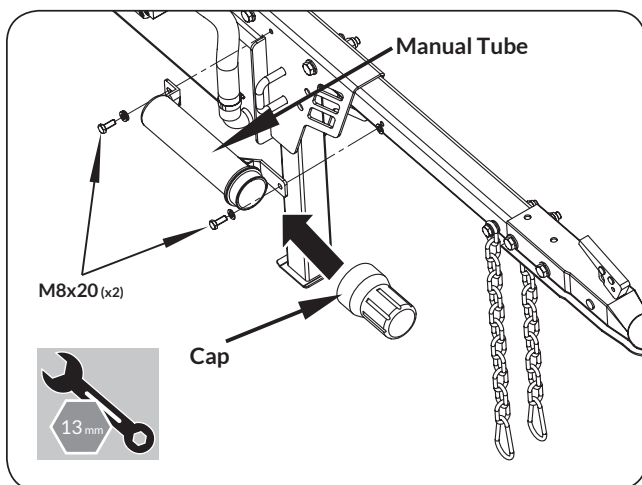

Figure 11
1. Remove the cap of the manual tube. Align the holes in the manual tube with the holes in the tow bar, insert and tighten bolts and washers. (See **Figure 11**)